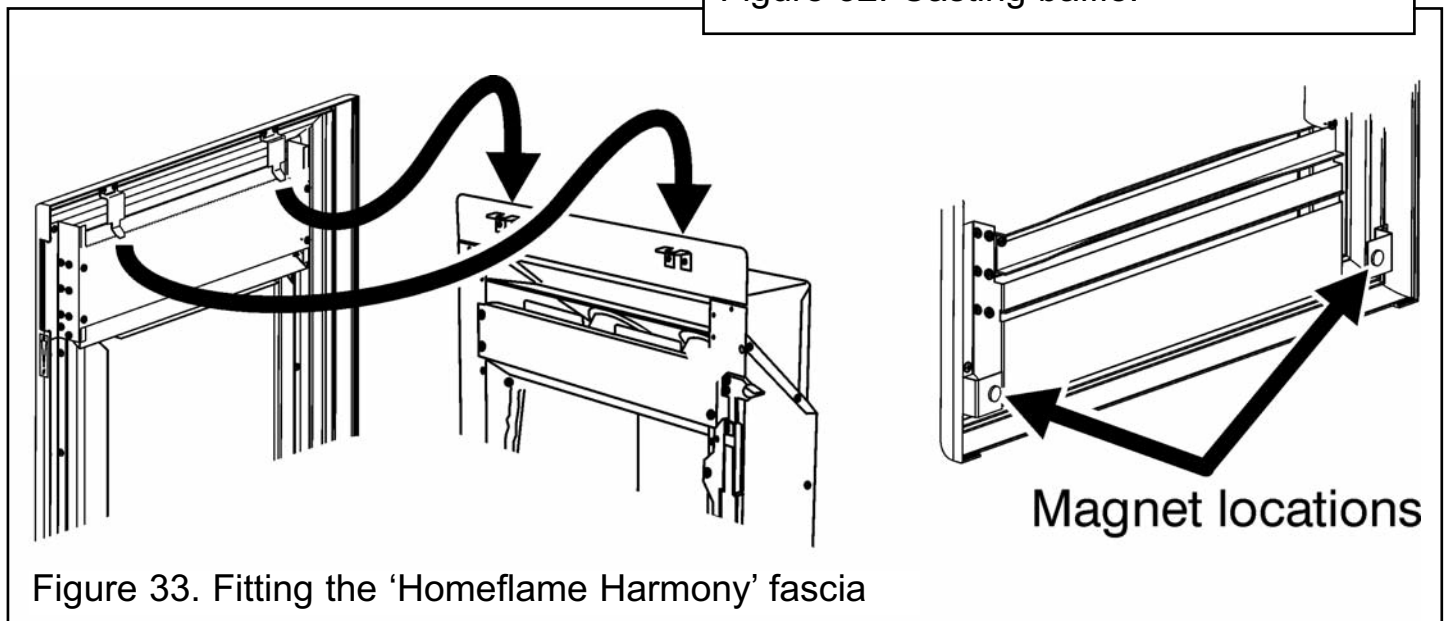

Figure 33. Fitting the 'Homeflame Harmony' fascia
1. Place the top of the fascia against the fireplace front surface so that the two retaining plates at the back of the fascia are directly above the two retaining brackets on the convector box. Keeping the lower part of the fascia clear of the ceramic fuel effect, lower the fascia making sure that the rear retaining plates locate fully into the retaining brackets on the convection box (See figure 33). The fascia bottom is held in place with magnets. These should be located as in figure 33.
3. To fit the fascia, place the top of the fascia against the fireplace front surface so that the two retaining plates at the back of the fascia are directly above the two retaining brackets on the convector box. Keeping the lower part of the fascia clear of the ceramic fuel effect, lower the fascia making sure that the rear retaining plates locate fully into the retaining brackets on the convection box (See figure 33). The fascia bottom is held in place with magnets. These should be located as in figure 33.